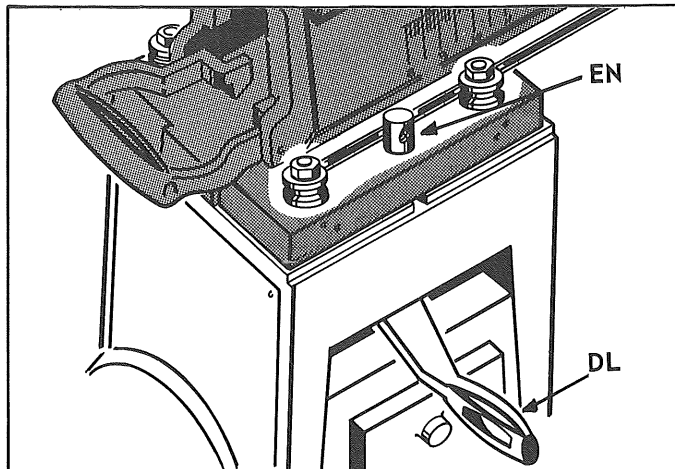
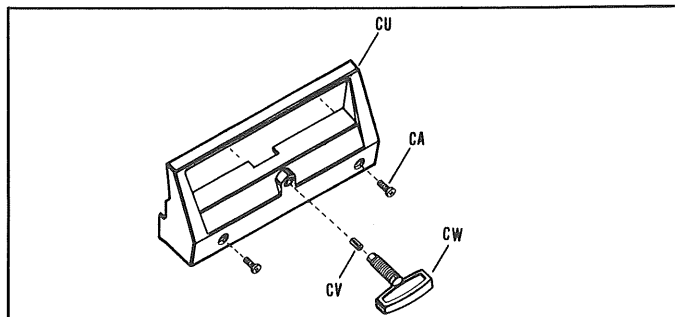

FIG. 7
FIG. 8
1. Release carriage lock (CW) by turning counter-clockwise. Fig. 8.
2. Remove the right hand carriage cover (CU). NOTE: During initial assembly of saw this step is omitted.
3. Release the yoke lock (DL) Fig. 7 by moving it toward the front of the saw towards the operator.